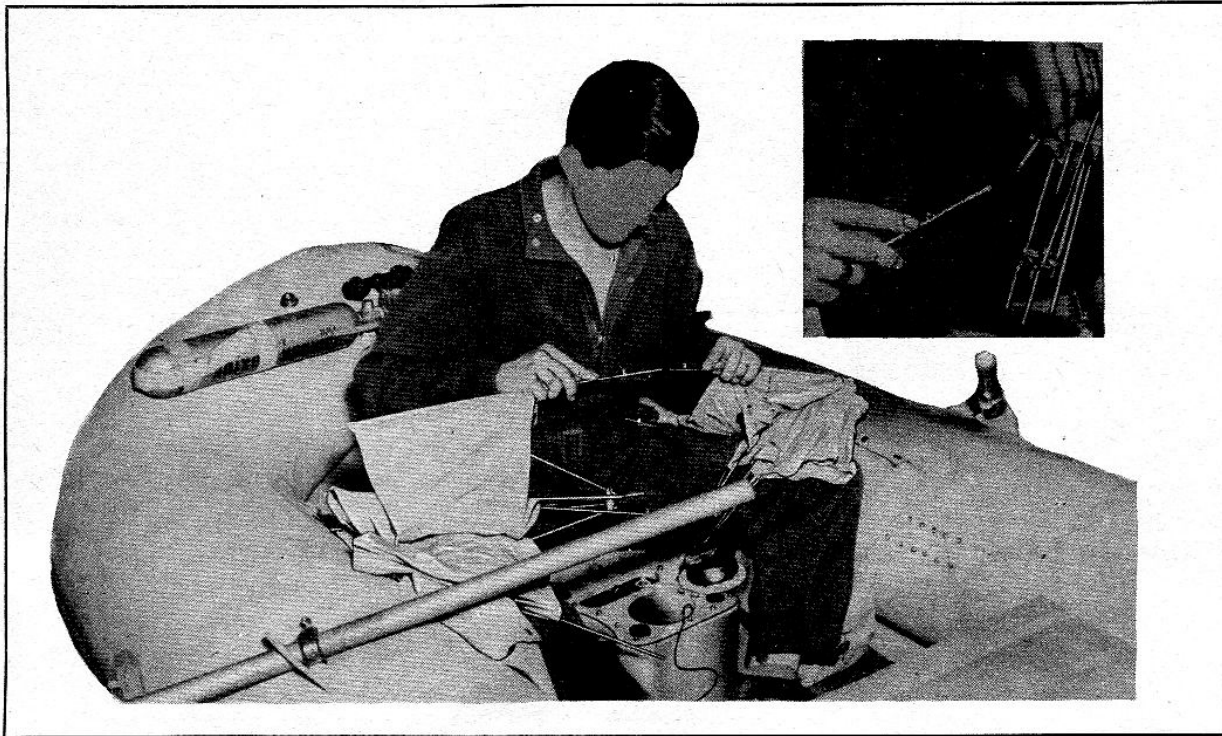

Figure 2-3. Kite M-357-A—Assembly, Step 1
(1) Untie the tie tapes and remove the kite. Do not lose the inflating tubes.
(2) Assemble the kite as follows:
*(a)* Put together the two halves into which the kite is divided by fitting the ends of the four longerons on one half into their respective sockets on the other half. (See fig. 2-3.) Start by fitting together the longerons which are fastened together by a short length of cord, and then fit together the other corresponding longerons one by one around the kite. Be sure that each pair of longerons is pressed tightly together so that the two halves are held firmly in position.
(8) Screw the inflating tube into the top of the generator. (See fig. 2-3.)
(9) Wet the tip of the inflating tube and the balloon neck so the two will slide together more easily.
(10) Hold the neck of the balloon. Force the tip of the inflating tube into the neck of the balloon as far as it will go, that is, until the handle touches the bottom of the balloon neck. Twist the inflating tube back and forth slightly while pushing on it, to make it go into the balloon valve more easily. Do not twist more than one-half turn in either direction, or the valve may become blocked.